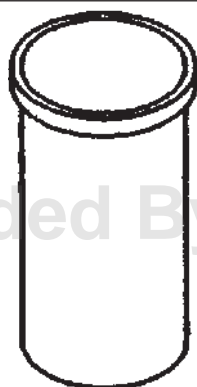

Fig. 1A
**Cylinder Liners** (dry, pre finished, hard, easy fit type) - Mild Interference Fit Liner is made of cast iron. There are four selectable sizes available i.e. W, X, Y, Z based on liner outer diameter. **Fig. 1A**